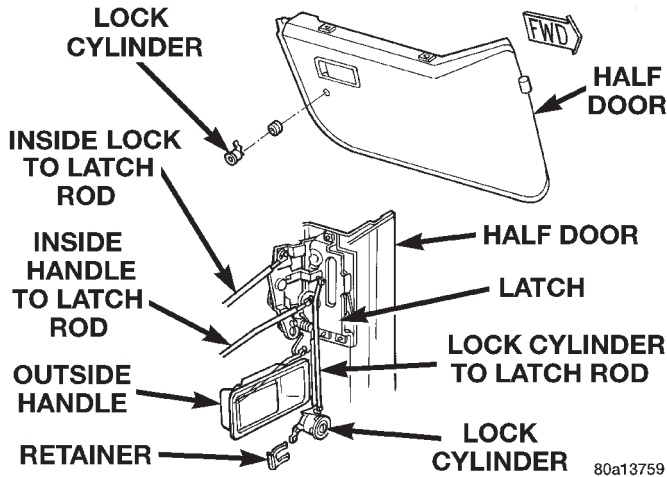
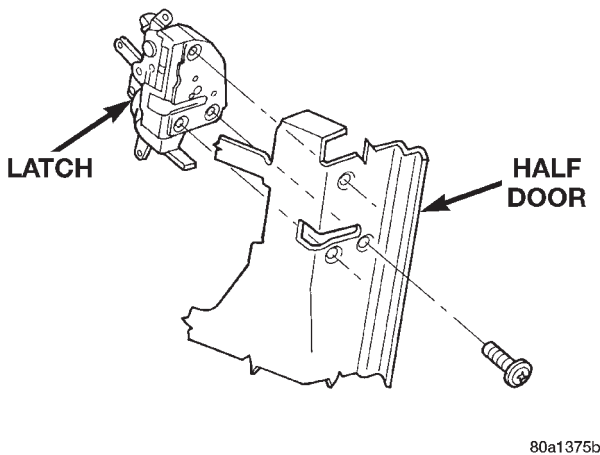

Fig. 36 Half Door Latch Rods
Fig. 37 Door Latch
- (1) Remove trim panel.
- (2) Peel back the waterdam.
- (3) Disconnect lock cylinder to latch rod (Fig. 36).
- (4) Remove lock cylinder retaining clip.
- (5) Remove the lock cylinder from the door.
- (2) Disconnect the lock cylinder to latch rod (Fig. 36).
- (3) Disconnect the lock knob to latch rod.
- (4) Disconnect the outside handle to latch rod.
- (5) Using a trim stick or equivalent, pry back the door weatherstrip at the latch to access the screw attaching the latch to the door.
- (6) Remove the screws attaching the latch to the door (Fig. 37).
- (7) Lower the latch in the door and disconnect the inside handle to latch rod.
- (8) Remove the latch from the door.
- (1) Position the latch in the door.
- (2) Connect the inside handle to latch rod.
- (3) Install the screws attaching the latch to the door.
- (4) Position the door weatherstrip in place, apply adhesive as necessary.
- (5) Connect the outside handle to latch rod.
- (6) Connect the lock knob to latch rod.
- (7) Connect the lock cylinder to latch rod (Fig. 36).
- (8) Install trim panel.